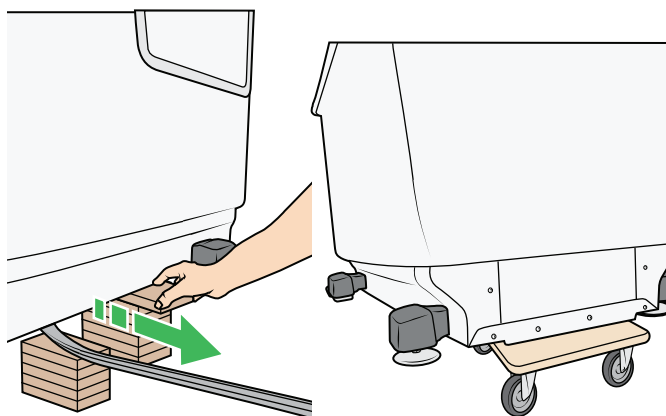

Figure 19
9. Remove the woodblocks one by one until the bathtub rests on the mini trolley. See Figure 19